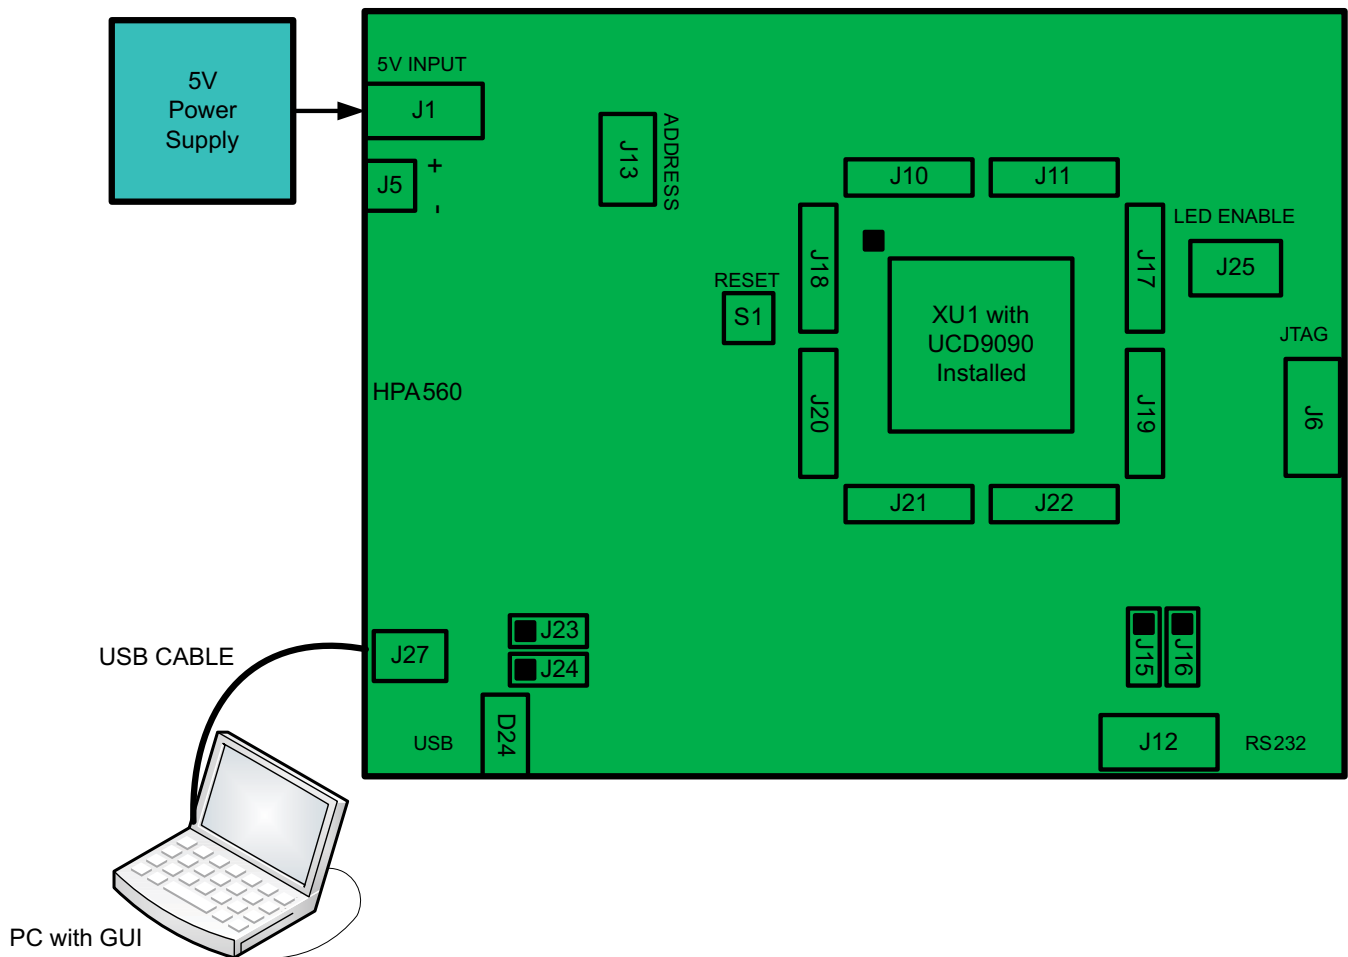

Figure 1. Typical Test Setup
Figure 1 shows a typical test setup for the UCD90SEQ48EVM-560. All that is required is a personal computer (PC) with a USB port and the TI Fusion Digital Power Designer GUI. The USB-EVM cable is provided with the evaluation module (EVM) and is used for EVM power.
When installing the UCD9090/UCD9090A sequence devices into XU1, ensure that the device pin 1 is oriented as shown in Figure 1.